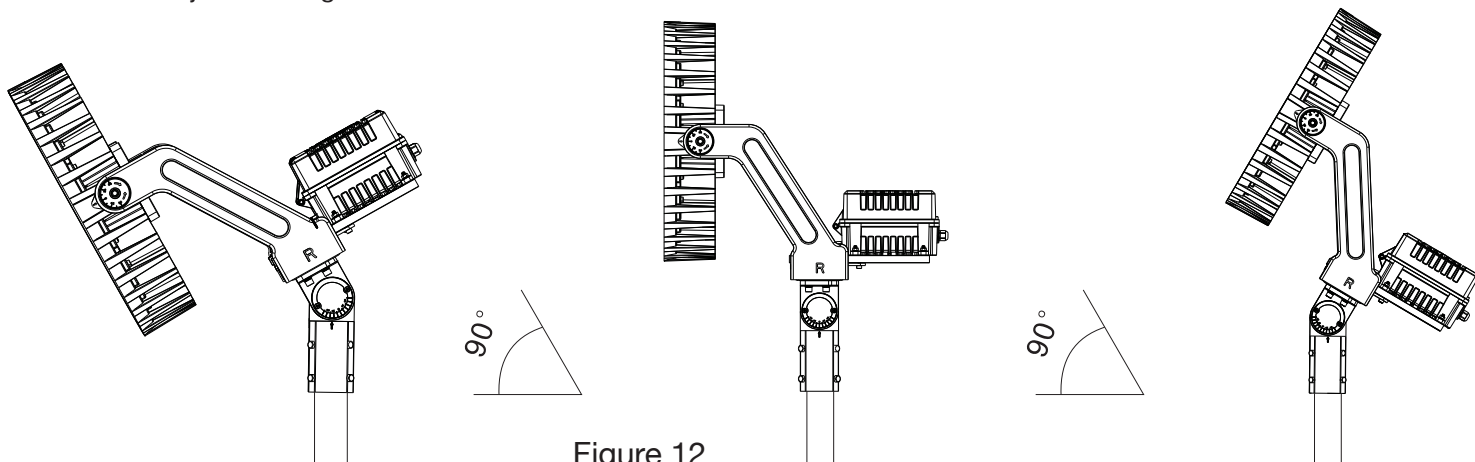

Figure 12
3. Use an open-end wrench and hex wrench to loosen the adjusting screw for adjusting the angle (Fig 12)